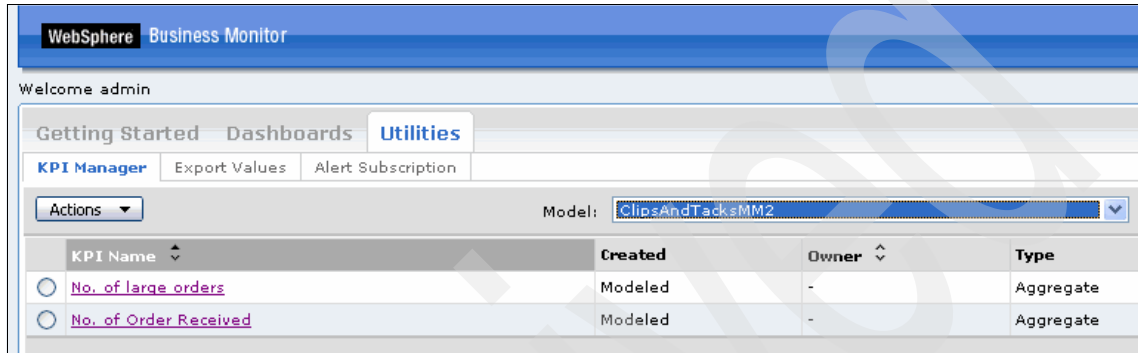

Figure 6-117 KPI Manager tab
1. On the WebSphere Business Monitor dashboard, click the **Utilities** tab and click the **KPI Manager** subtab (Figure 6-117). For Mode, select **ClipsAndTacksMM2** as the monitor model. Click the **Actions** button.